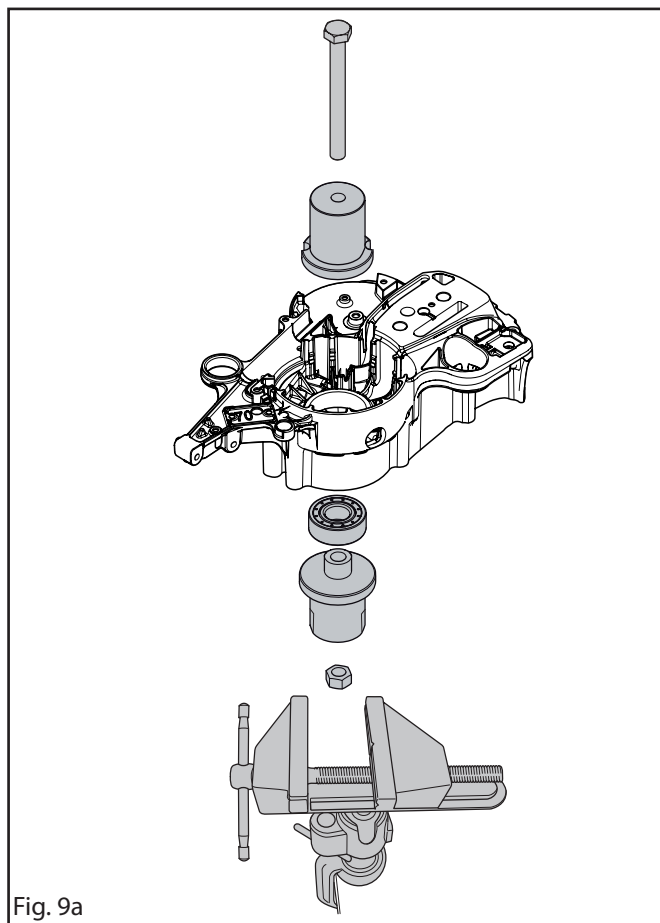

Fig. 9a
1. **Clutch side:** Place Guide shaft (clutch side, bottom) in a vice and place the bearing on top of the Guide shaft (clutch side, bottom) with sealing upwards. Use Sleeve (clutch and flywheel side, top), screw and nut to fit the bearing on the clutch side of the crankcase. See figure 9a and study the illustration carefully.